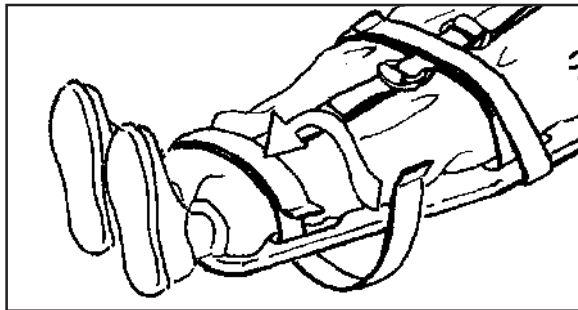

Figure 5 - Securing a Strap
1. To secure each strap, feed it through a handhold or other fastening point on the transport device, bring the strap around the fastening point and press the strap onto itself to secure the hook-and-loop fastening material (Figure 5).